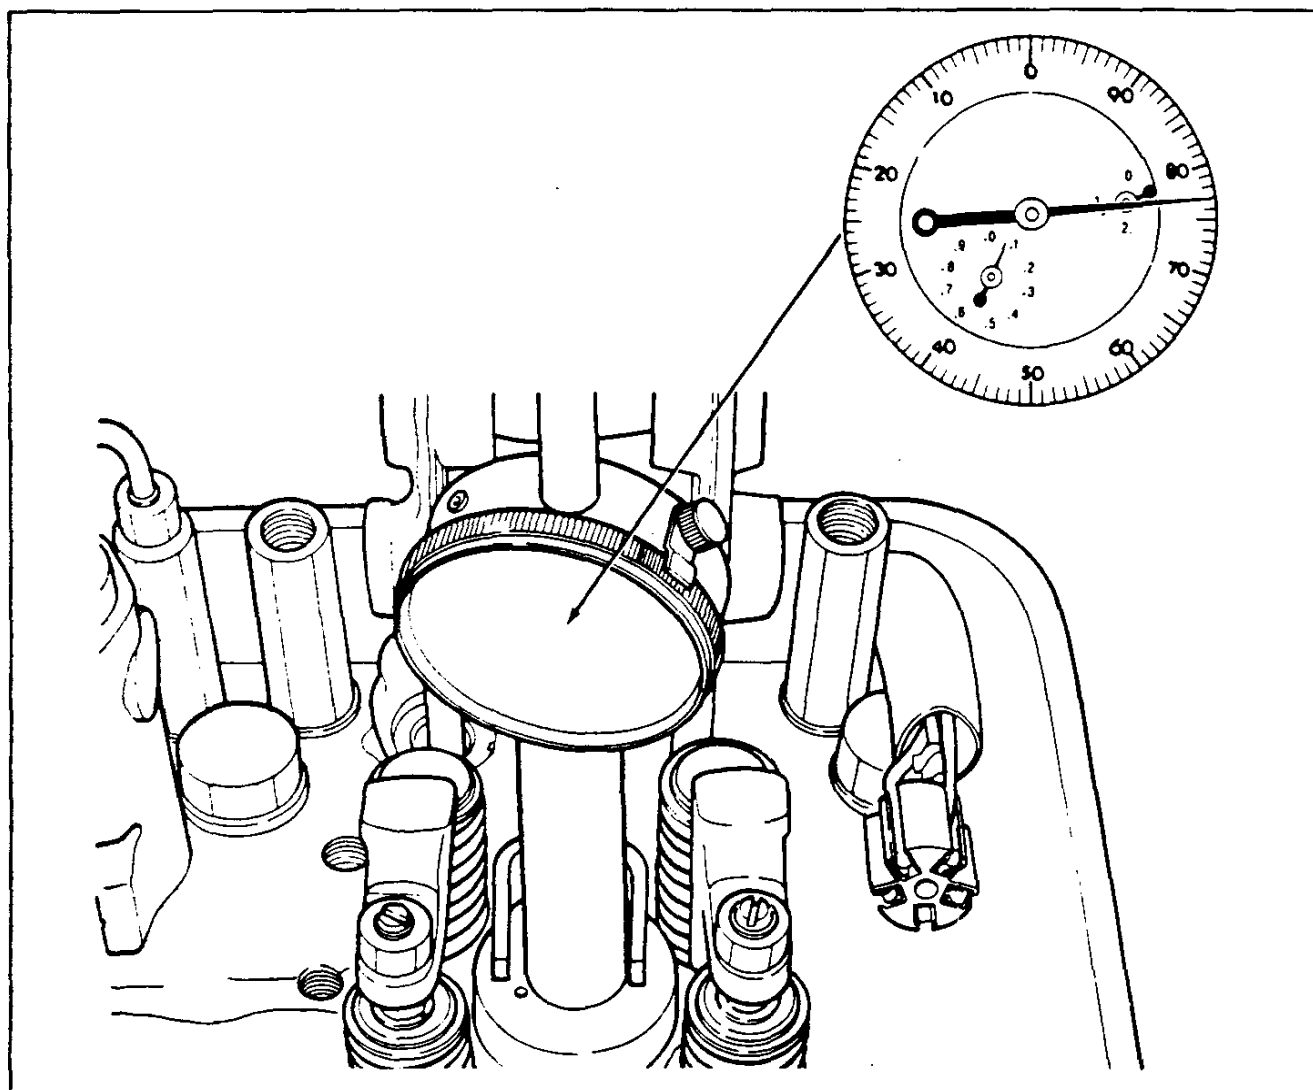

Figure 16E
3. Turn the crankshaft slowly, in the direction of rotation, until the dial indicator pointer reads exactly 1.077" of piston travel as shown in Figure 16E.